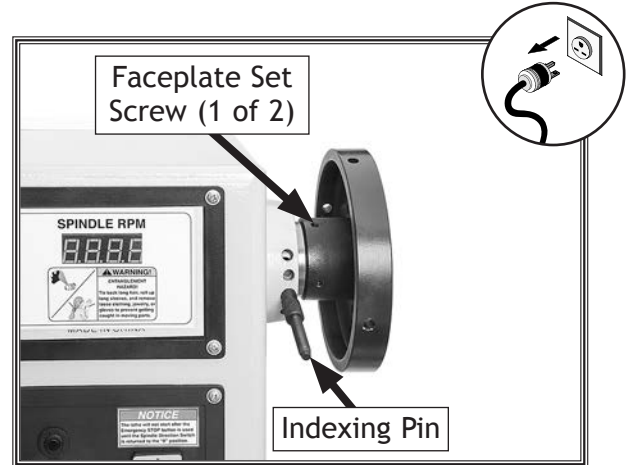

Figure 29. Locking spindle with indexing pin and faceplate set screw.
2. Insert indexing pin into an indexing hole and rotate spindle until pin engages to prevent spindle from turning while you tighten faceplate, as shown in **Figure 29**.
4. Tighten two set screws along inside diameter of faceplate to secure it to spindle (see **Figure 29**).